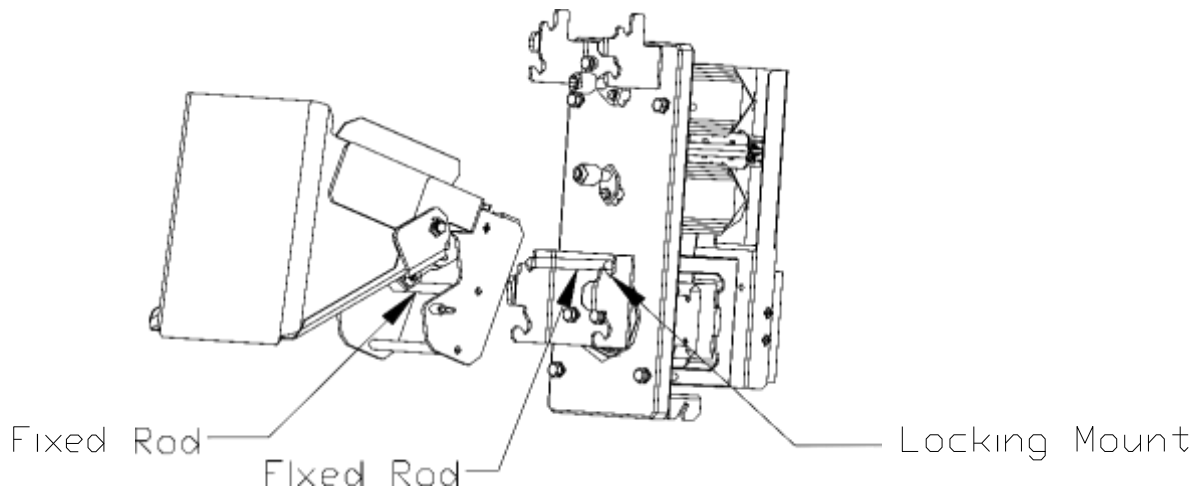

Fig. 3.3.2a
1. As shown in Fig3-3-2a, hold the outer edge of the bucket and make the bucket tilt slightly with your hand so that the fixed rod connects to the locking mount in position 1 as shown in Fig3-3-2a. After aligning the locking mount, allow the bucket to gently sit down into the mount.